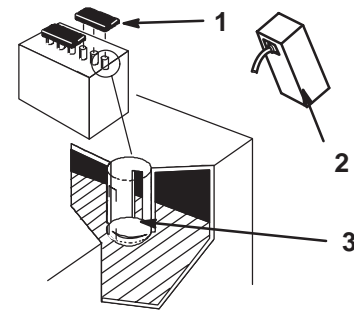

Figure 4
5. Slowly pour electrolyte into each cell until the electrolyte level is up to the lower part of the tube (Fig. 4).
9. Slowly pour electrolyte into each cell until the level is once again up to the upper line on the battery case (Fig. 4) and install the covers.